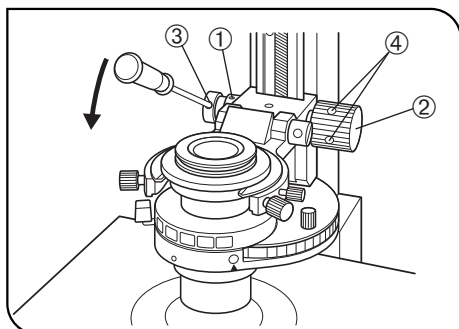

Fig. 34
(Fig. 34)
1. Loosen the two knob clamping screws ① on the left adjustment knob using the Allen screwdriver. When the handle ② has been moved to the left, restore it in the position as shown in Fig. 34.
2. Insert the Allen screwdriver into the hole ③ on the condenser height adjustment knob ② and, while holding the knob, turn the screwdriver in the direction of the arrow to increase the rotation tension of the knob or in the opposite direction to decrease the tension.
3. After adjustment, tighten the two clamping screws ① securely.